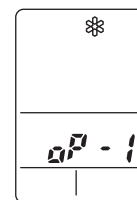

Fig. 8b
- After a few seconds, “\*” appears and “oP-1” blinks in the remote controller display area. (Fig. 8b)